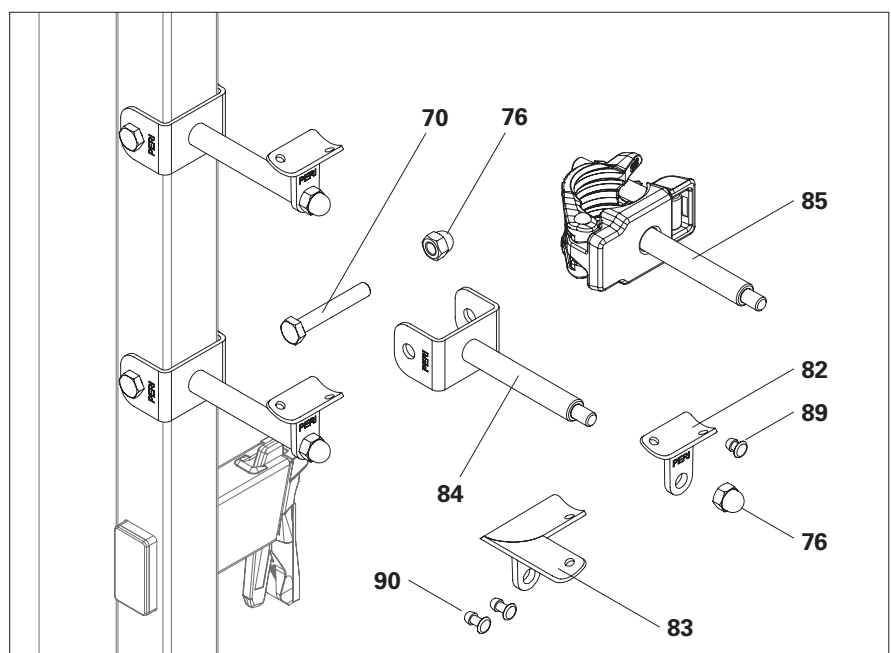

Fig. D1.02
2. Bolt the handrail bracket to the frame tube of the Guardrail PPG (**30 / 36**) using the M10x75 Bolt (**70**) and cap nut (**76**). (Fig. D1.02)